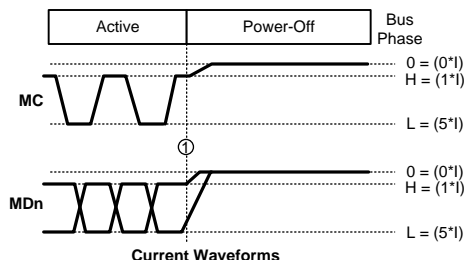

Figure 8. Bus Power Down Timing
(1) Typical values are given for V_{DDIO} = 1.8V and V_{DD} = V_{DDA} = 1.8V and T_A = 25°C.
(2) This is a functional parameter and is specified by design or characterization.
(3) Specified functionally by the I_{DDZ} parameter. See also Figure 8.
In the OFF phase, both SER and DES MPL transmitters are turned off with zero current flowing on the MC and MDn lines. Figure 8 shows the transition of the MPL bus into the OFF phase. If an MPL line is driven to a logical Low (high current) when the OFF phase is entered it may temporarily pass through as a logical High (low current) before reaching the zero line current state.